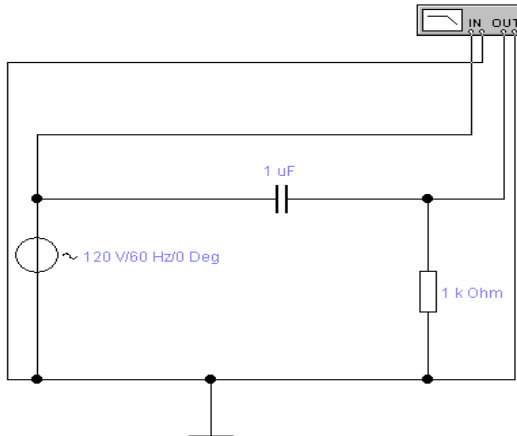

Figure 8.6 – High pass filter
13. Draw a diagram of fig. 8.6.